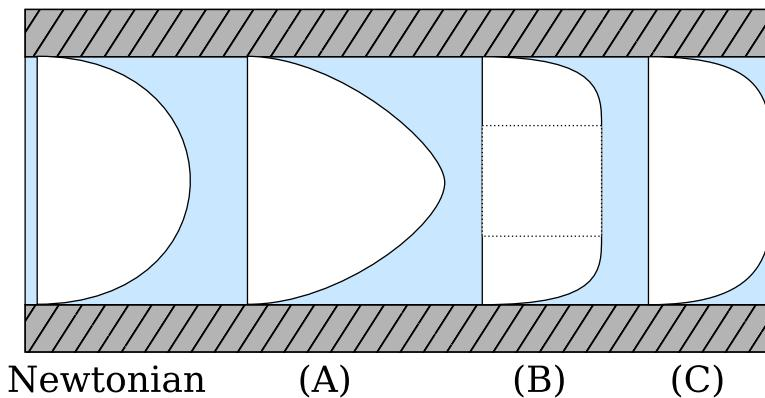

Figure 25: Non-newtonian flow profiles compared against the newtonian flow profile.
- In Fig. 25, which profile corresponds to a shear thinning fluid? [2 marks]
- In Fig. 25, which profile corresponds to a viscoplastic fluid? [2 marks]
- Which profile in Fig. 25 corresponds to a shear thickening fluid? [2 marks]
- Which profile in Fig. 25 corresponds to a Bingham-plastic fluid? [2 marks]
- Which fluid types illustrated using the flow profiles in Fig. 25 cannot be fitted using a power-law model? [2 marks]